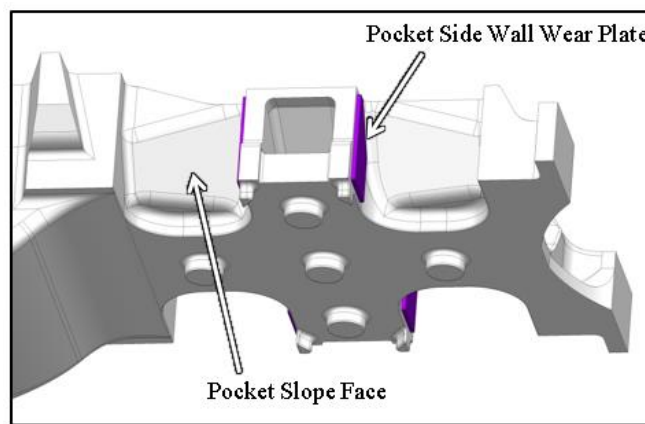

Figure 18: Q4 Bolster Wedge Pocket Wearing Surfaces
Each Q4 bolster wedge pocket has two contacting surfaces: the side wall wear plate and the slope face (Figure 18). There are four (4) wedge pockets on each end of the Q4 bolster.